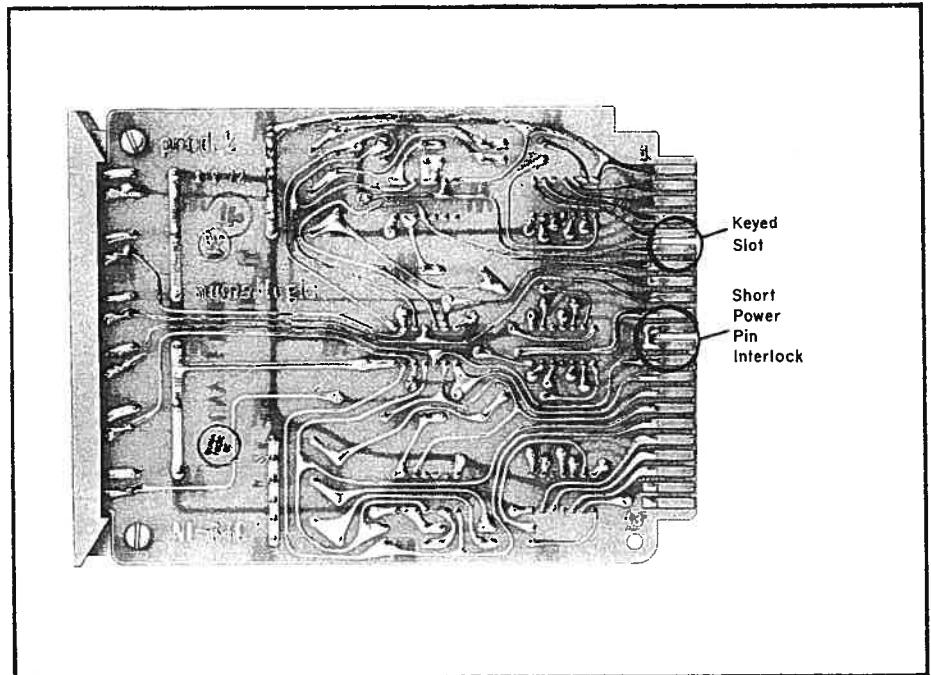

Figure 1-3: Mechanical and electrical interlock features.
1. Two mechanical interlocking features prevent 300 Series modules from being inserted in the wrong rack position or from being inserted in the rack upside down. As shown in Figure 1-3, the keyed slots assure the correct rack position and the stepped notch solves the inversion problem.
2. Electrical interlocking is provided by the exclusive short power pin shown in Figure 1-3. The connection to this pin can be wired in series by machine functions or to the complete machine in such manner that, when any one module is pulled out, it cancels power to all the modules, preventing any unwanted machine functions from occurring.